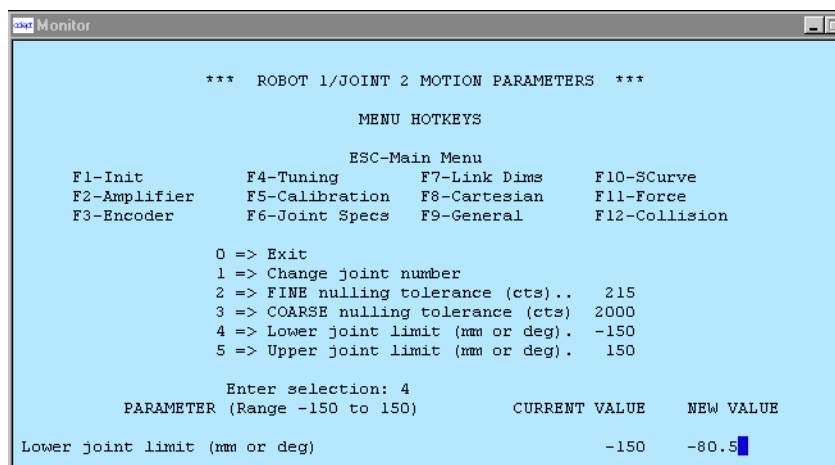

Figure 6-25. Joint 2 Menu - Lower Limits
- In the next menu (see Figure 6-25), enter the new value for the J2 lower limit softstop. See Table 6-8 for recommended softstop values for Position 1. Note that this value must be a negative number.